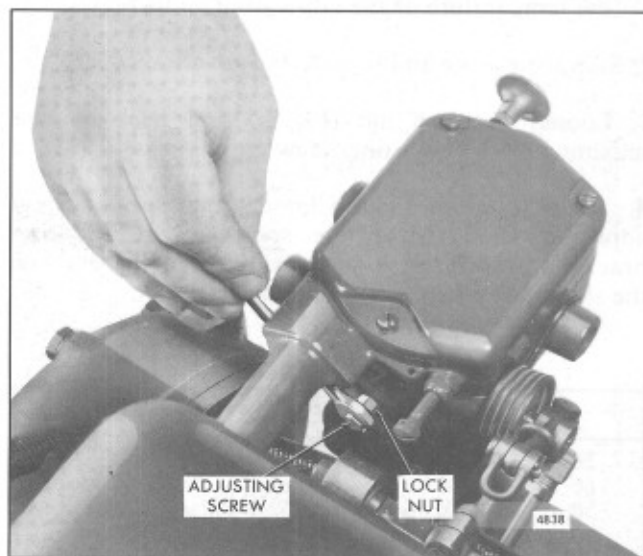

Fig. 5 - Adjusting Maximum No-Load Speed
3. Loosen the lock nut (Fig. 5) and back off the maximum speed adjusting screw approximately 3/8".